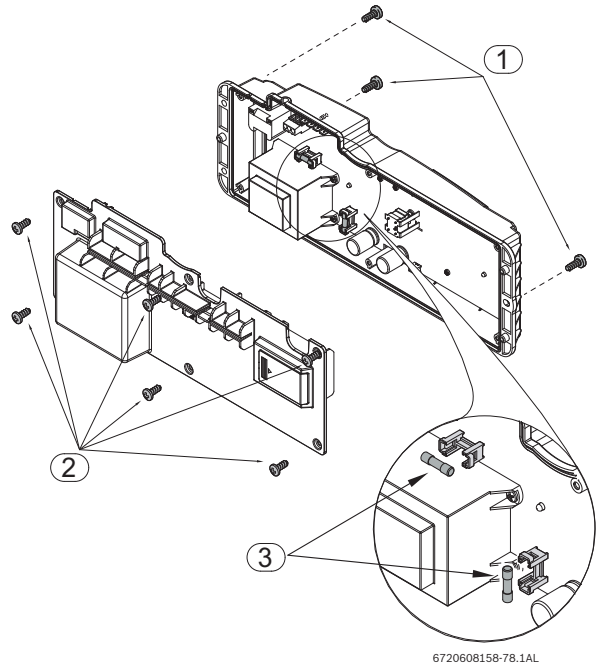

Fig. 37 Location of fuses
- ▶ Pull control unit free to access and remove the six screws from the back cover of the control unit, see Fig. 37, pos. 2.
- ▶ Check the fuses in the printed circuit board, see Fig. 37, pos. 3.